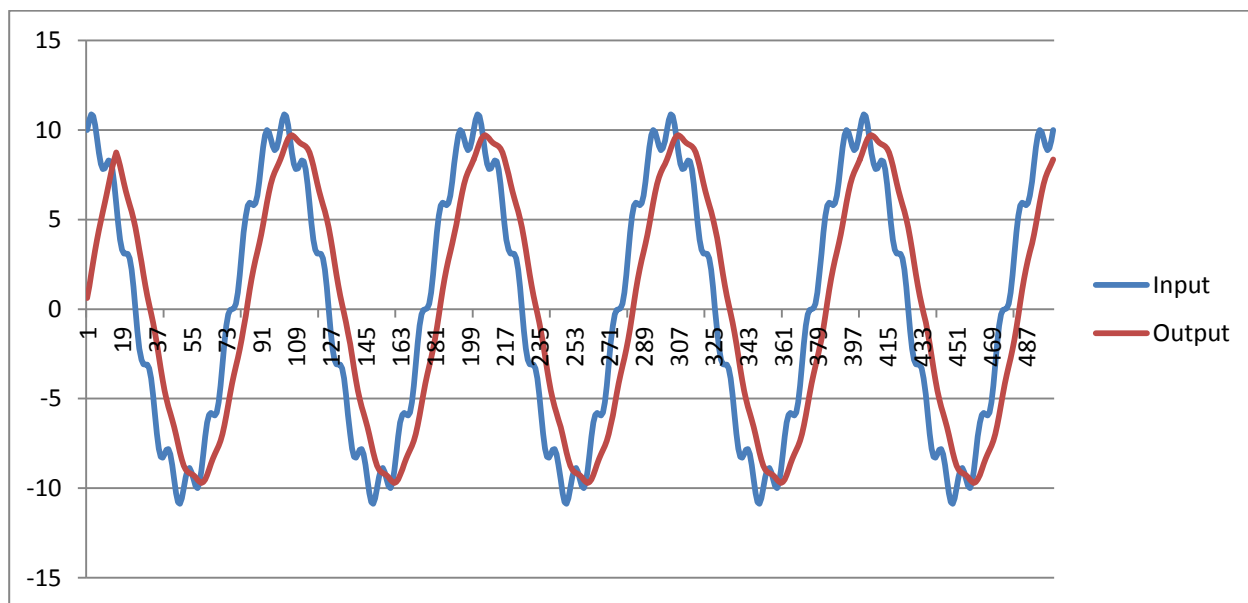

Figure 1 Moving Average Filter Response
The effect of the filter is shown in Figure 1. In this LAB assignment you are required to build the moving average filter that will generate the same results as shown in Figure
The 11 bit format is shown in Figure 1. Each 11 bits input should follow this format.
- c. Using any plotting tool, plot the input and output and verify it is performing as shown in *Figure 1*.
- b. Input and output files and their plot for the final design as shown in Figure 1.